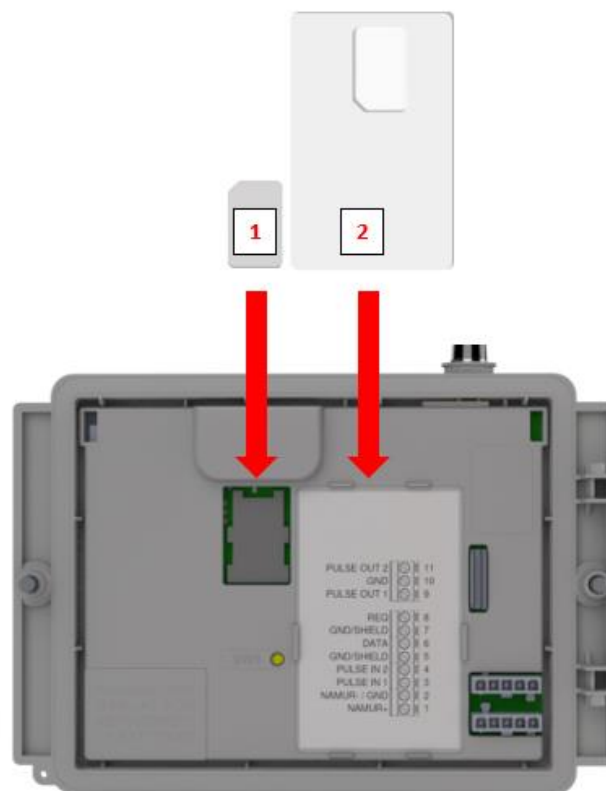

Figure 8
Press lightly on the metal-colored closure of the mini-SIM holder and turn anticlockwise, the mini-SIM holder unlocks and falls open. The mini-SIM must be inserted with the gold contacts facing backwards and the angled corner upwards (fig. 8, pos. 1). Close the mini-SIM holder by carrying out the above operations in reverse order.
Insert the SIM card as shown in figure 8, pos. 2.